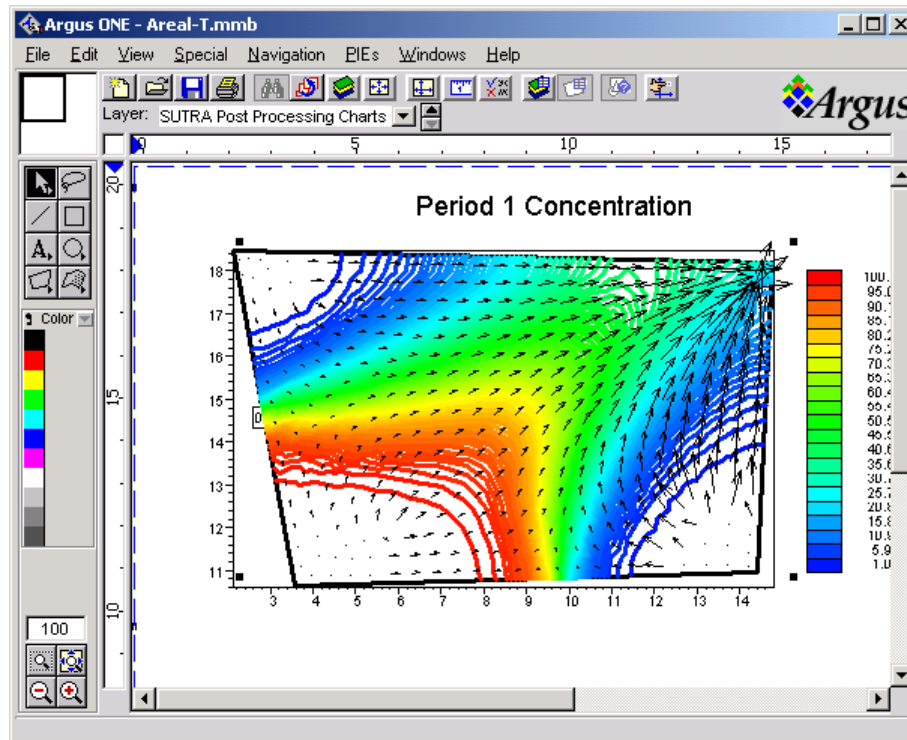

Figure 24. Concentrations and velocities in areal solute transport step-by-step example.
12. The plot is too cluttered because the mesh is visible. Make the mesh invisible by clicking on its “eye.” A plot of velocity vectors and concentration contours (similar to that shown in figure 24 but with fewer contours) will be shown.